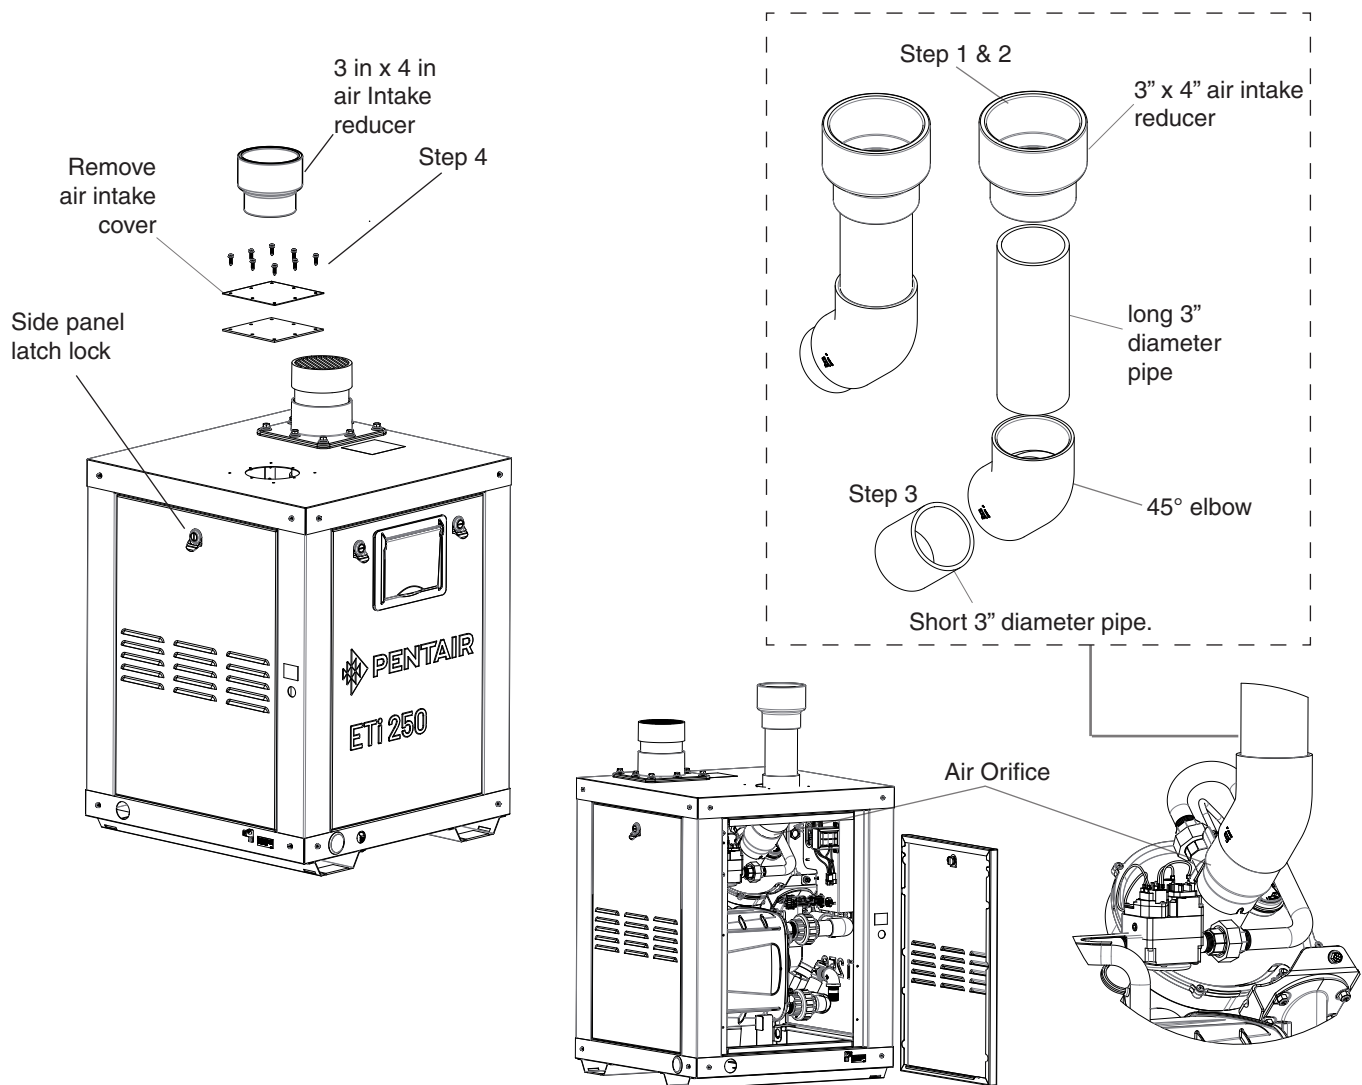

Figure 27.
To install the Direct Air Intake Kit (see Figure 27), the steps are as follows:
6. Install the 3"x 4" reducer to the long 3" pipe through the air intake hole in the top panel, see Figure 27.